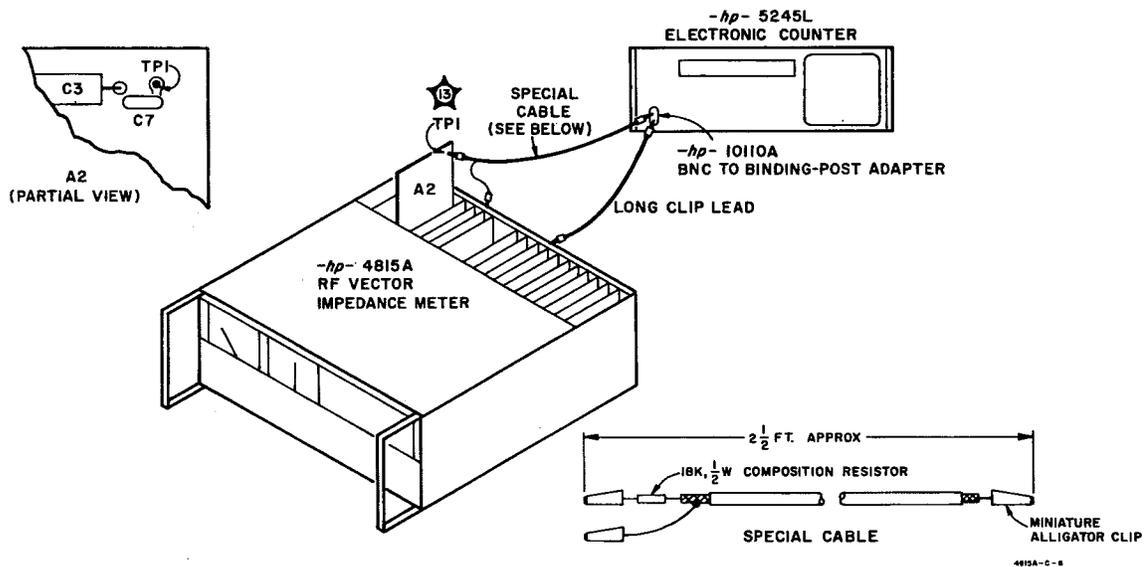

Figure 5-6. Setup for Reference Oscillator Adjustment
- a. Make connections as shown in Figure 5-6. Connect  $\star$  to Frequency Counter using special cable illustrated.
- c. Connect A2TP1, , to loose lead of A13C5 using special cable illustrated in Figure 5-6.